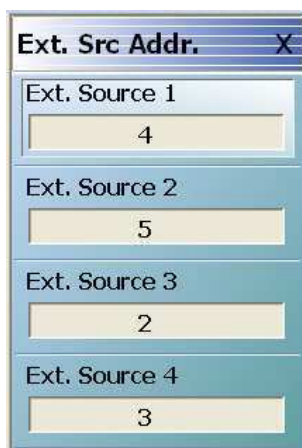

Figure 2-7. EXT. SRC. ADDR. (EXTERNAL SOURCE ADDRESS) Menu
5. The GPIB addresses for the External Sources are changed on the EXT. SRC ADDR. (EXTERNAL SOURCE ADDRESS) sub-menu shown below in Figure 2-7.